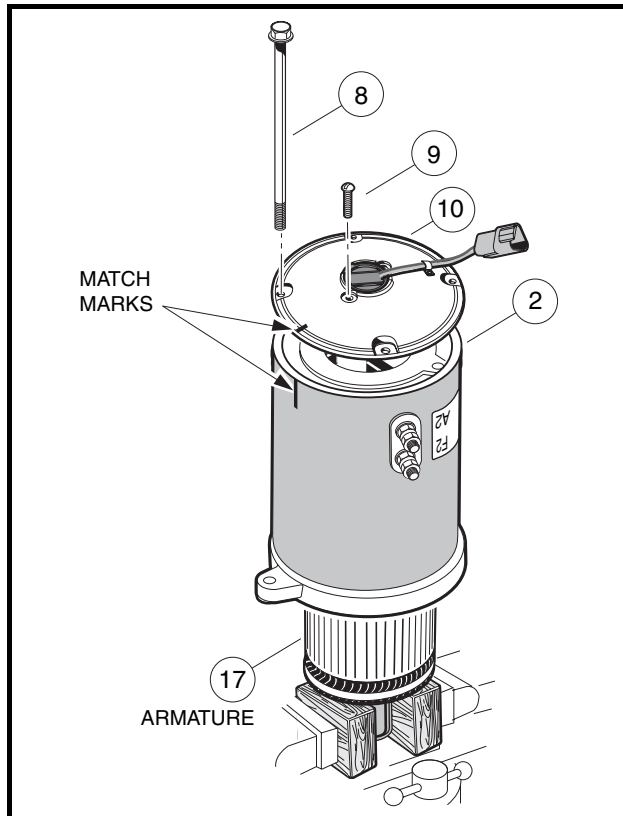

Figure 16-5 Motor Disassembly
- Before beginning disassembly, place match marks on the motor end shield and stator shell, then place the motor in a vice with wooden blocks as shown (**Figure 16-5, Page 16-5**).
- Remove the four bolts (8) securing the end shield (10) to the stator shell (2).
- Remove the two screws (9) attaching the end shield to the bearing retainer.
- Slide the armature (17) out of the opposite end of the stator shell (2).